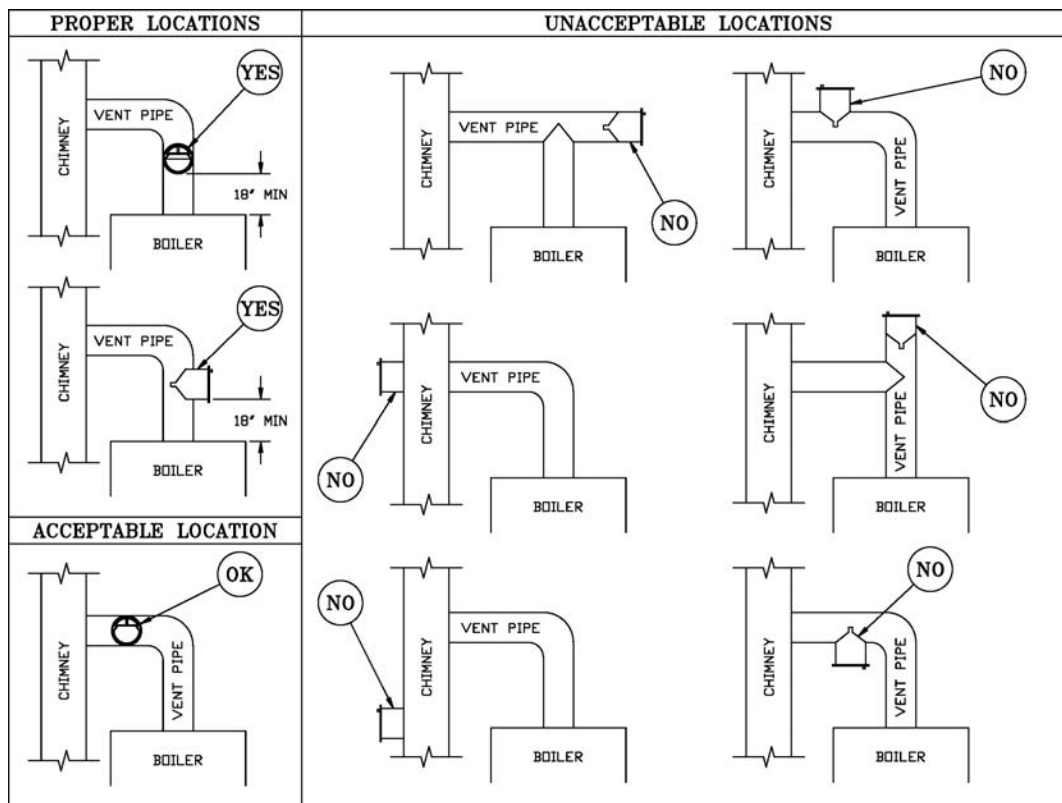

Figure 17: Proper and Improper Locations of Draft Regulator
- a. Install a draft regulator (supplied with boiler) following the instructions furnished with the regulator. See Figure 17 for alternate draft regulator locations.